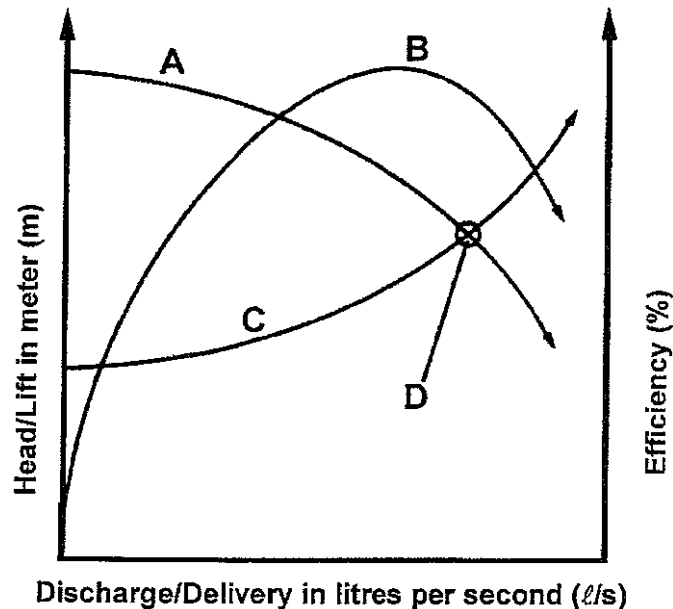

FIGURE 5
- 4.4 Refer to FIGURE 5 below, that is applicable to the operation of centrifugal pumps and name the different curves A, B, C and point D as indicated. Write the answers below one another in the ANSWER BOOK. (4)